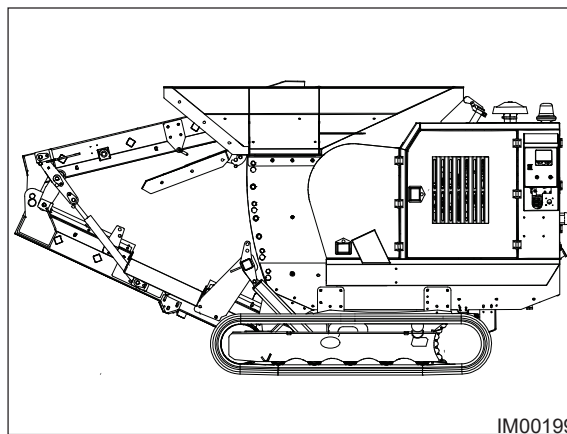

Fig: 10.7 - Transport Position
2. Ensure the machine is in the correct Transport Position (Fig: 10.7).